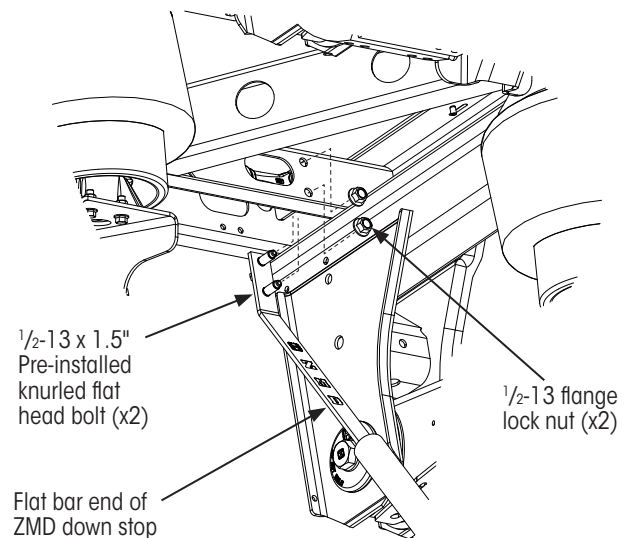

Figure 2: ZMD® down stop mounting holes
1. **Assemble** metal bar end of the down stop to the inside of the slider crossmember, as shown in Figure 2, using flange nuts provided with the kit.
3. Using the hardware provided with the kit, **slide** a hardened washer onto the shear-type bolt (Figure 2).
6. **Thread** the shear-type bolt into the lower shock mount nut as shown in (Figure 2) and hand tighten.
**NOTE:** For the suspension beam lower shock mount, the nut is tack welded inside the beam (Figure 2). If the threads are damaged and the nut is not reusable, refer to L635 INTRAAX® Shock Mount Assembly Procedure.